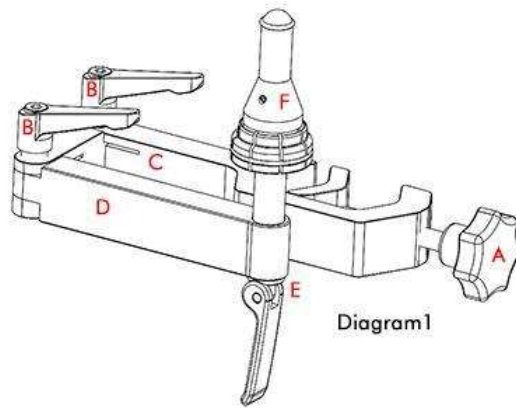

Figure 8: CMEH047: Diagram of the Paragon Oxygenator Holder in its “open” position
2. Hang the A.V Loop Tray at an appropriate height and secure the Paragon Oxygenator to the holder (Figure 8) using steps A-D below.
- C. The lever (part E) is disengaged when it is in the position shown in Figure 8. This will allow a Paragon Oxygenator to be placed over the acetal spike (part F) and rotated to the desired orientation. Once the desired position has been achieved, the lever (part E) can be pushed up towards the main body of the holder (part D), locking the Paragon Maxi and its position to the acetal spike (part F).